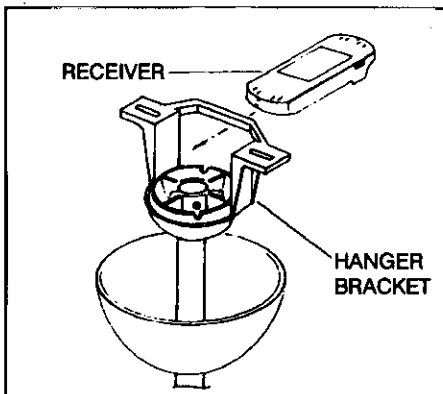

FIG. 12
Step 1. (Fig. 12) Insert the receiver into the hanger bracket with the flat side of the receiver facing the ceiling.